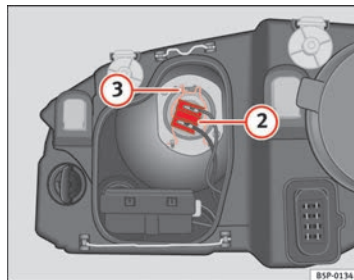

Fig. 182 Dipped head-lights
- Remove the connector ⇒ page 255, fig. 182 ② from the bulb.
- Disengage the retainer spring ⇒ page 255, fig. 182 ③ pressing inwards to the right.